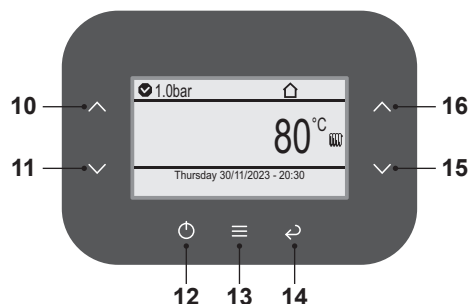

Fig. 3.14
- Press key 13 (Fig. 3.14) to access the main menu (Fig. 3.15).
- Press key 10 or 11 (Fig. 3.14) to select the desired menu (Fig. 3.16).
- Press key 13 (Fig. 3.14) to access the selected menu.
- Press key 10 or 11 (Fig. 3.14) the scroll through the list (Fig. 3.17).
- Press key 14 (Fig. 3.14) repeatedly to return to the previous levels.
To reset normal boiler functioning, just press the 12 (Fig. 3.14) key.